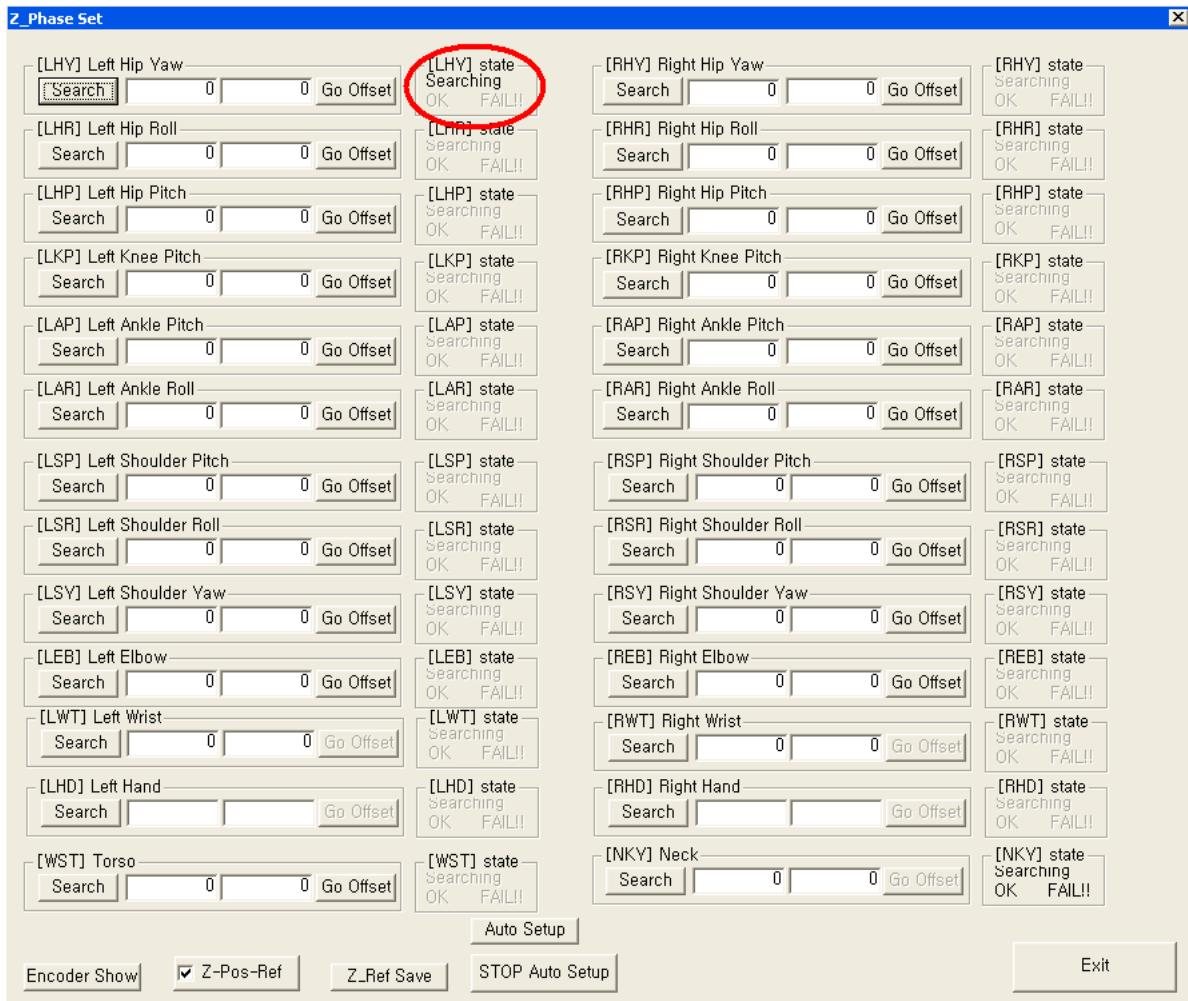

Figure 18: Zero Phase (ZPhase) Dialog Box: Left Hip Yaw [LHY] Searching for home position
- Highlight the word *Searching*, as seen in Figure 18.